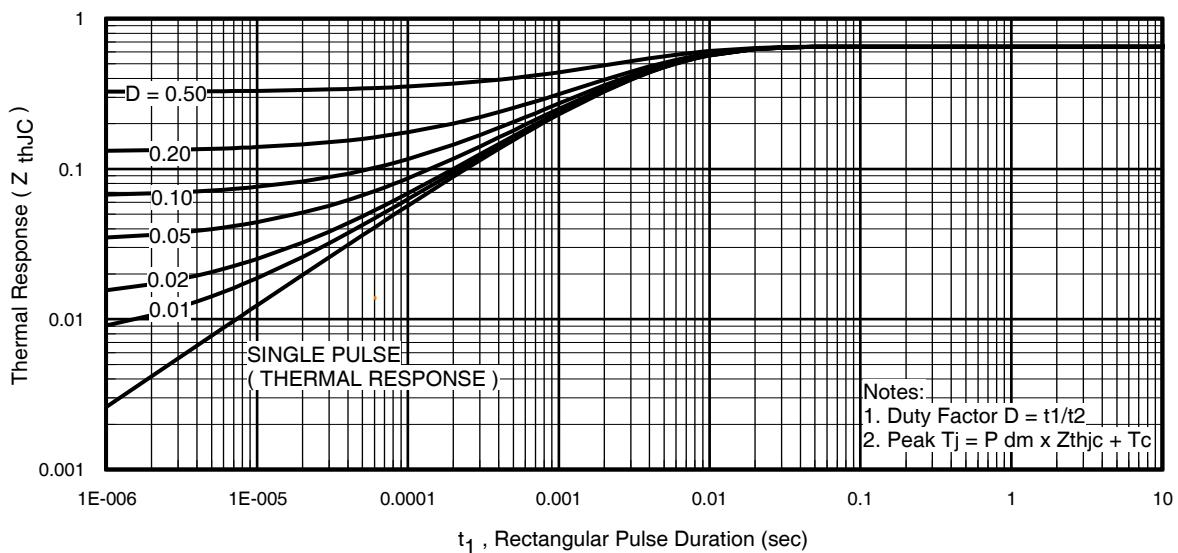
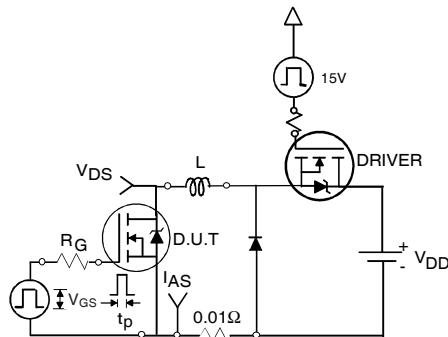

Fig 11. Maximum Effective Transient Thermal Impedance, Junction-to-Case
Fig 12a. Unclamped Inductive Test Circuit
- ① Repetitive rating; pulse width limited by max. junction temperature. (See fig. 11).
- ② Limited by $T_{J\text{max}}$, starting $T_J = 25^\circ\text{C}$, $L = 0.10\text{mH}$ $R_G = 25\Omega$, $I_{AS} = 75\text{A}$, $V_{GS} = 10V$. Part not recommended for use above this value.
- ③ Pulse width $\leq 1.0\text{ms}$; duty cycle $\leq 2\%$.
- ④ $C_{oss \text{ eff.}}$ is a fixed capacitance that gives the same charging time as C_{oss} while V_{DS} is rising from 0 to 80% V_{DSS} .
- ⑤ Limited by $T_{J\text{max}}$, see Fig.12a, 12b, 15, 16 for typical repetitive avalanche performance.
- ⑥ This value determined from sample failure population. 100% tested to this value in production.
- ⑦ This is applied to D²Pak, when mounted on 1" square PCB (FR-4 or G-10 Material). For recommended footprint and soldering techniques refer to application note #AN-994.
3. Equation below based on circuit and waveforms shown in Figures 12a, 12b.
- $Z_{thJC}(D, t_{av})$ = Transient thermal resistance, see figure 11